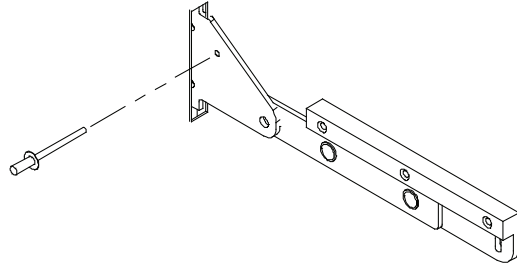

Figure 28: Insert Rivet/Screw/Nail to Keep Hinge Open
2. Open the oven door to its full open position and insert rivets, screws, or nails as shown in Figure 28 to hold the hinges in the open position.